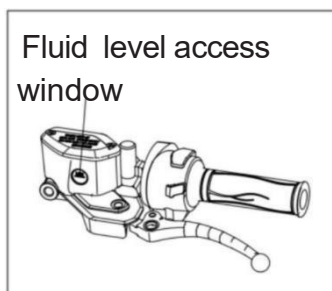

Figure 32 Inspection of Rear Brake Fluid Level
10.3. Inspection of brake fluid level in rear brake system (Figure 32)